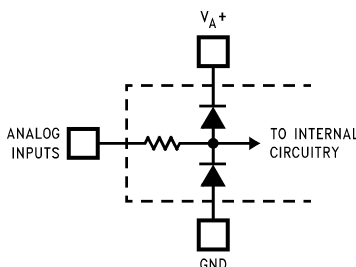

Figure 5.
- Two on-chip diodes are tied to each analog input through a series resistor as shown below. Input voltage magnitude up to 5V above V_A^+ or 5V below GND will not damage this device. However, errors in the A/D conversion can occur (if these diodes are forward biased by more than 50 mV) if the input voltage magnitude of selected or unselected analog input go above V_A^+ or below GND by more than 50 mV. As an example, if V_A^+ is $3.0 V_{DC}$, full-scale input voltage must be $\leq 3.05 V_{DC}$ to ensure accurate conversions. See Figure 5.